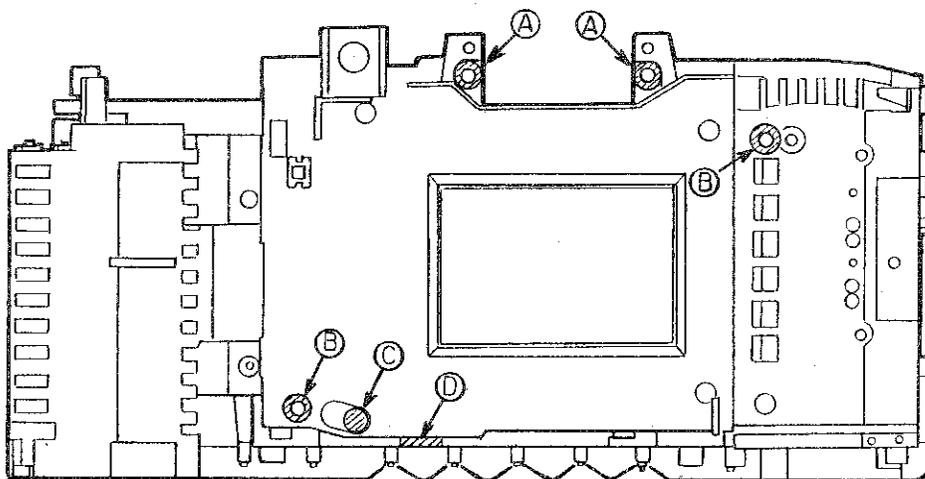

Fig. 55
- a) When the new type Mirror Box Ass'y is to be installed in the Type A Body, remove the washers at the points ③ only, leaving the washers at the points ① and ② and the tape at the point ④ as they are. (See Fig.55)